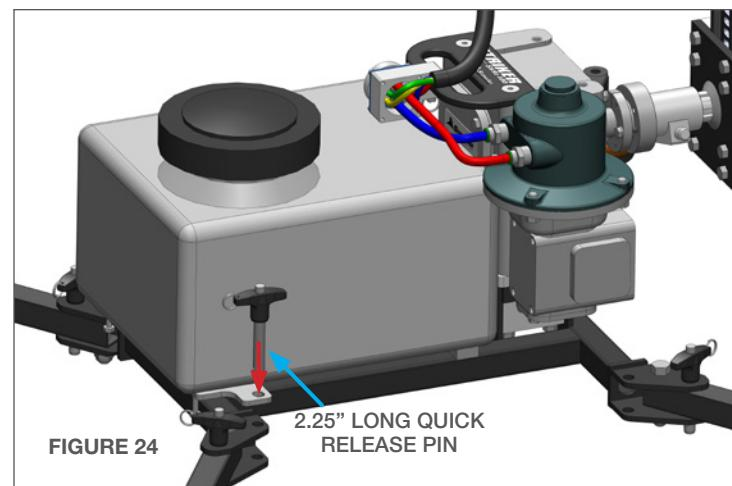

**FIGURE 23**
20. Slide the BU 152 Rail Stop onto the top of the Vertical Rail and tighten the Quick Release Lever so that it faces up and away from the Carriage Assembly as shown in **(Figure 23)**